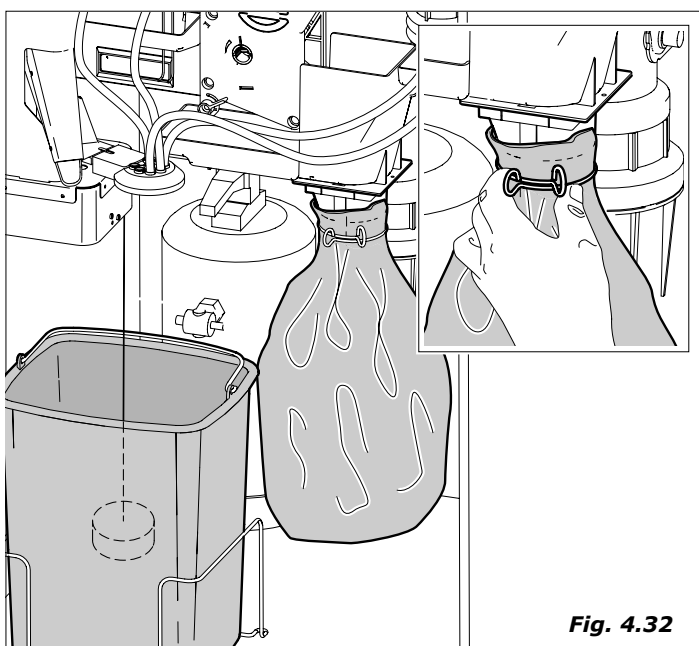

Fig. 4.32
- insert the plastic bag wrapping it on the support itself (Fig. 4.32)
- Make sure that the liquid collection tank is in the correct position (Fig. 4.32) and periodically empty it.